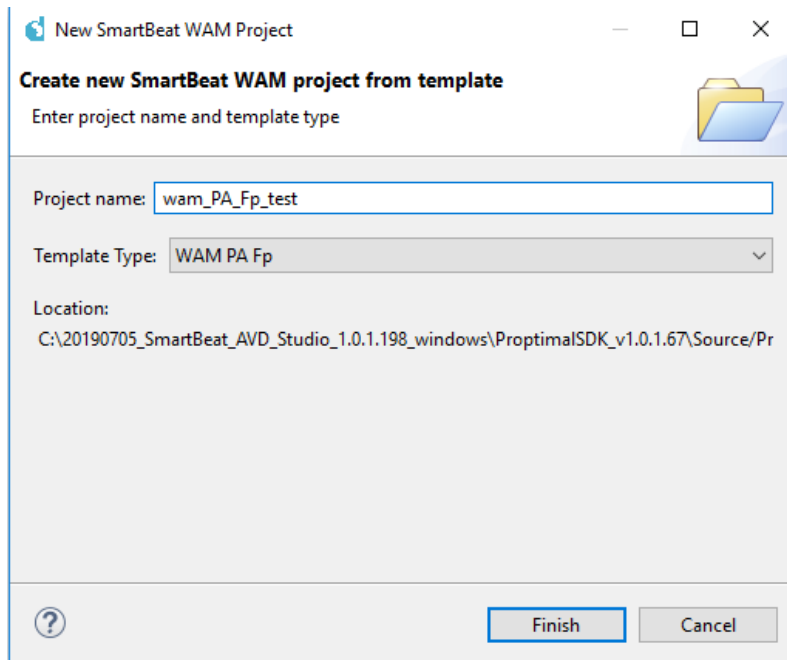

Figure 13: New Project Setup (Audio Data Stack)
3. Select the "WAM PA Fp" template type for Public Address FP configuration and choose a name for the project (Figure 13).